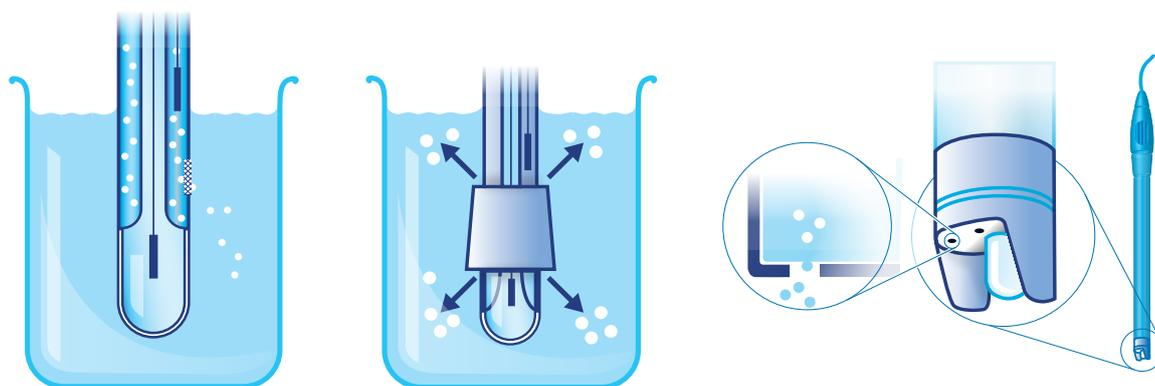

Figure 3: electrode with ceramic junction
Different junctions have been developed to provide the best contact for different kinds of samples (Fig. 3). The most common junctions in use today are ceramic junctions, which consist of porous ceramic material that allows slow electrolyte flow and are primarily used for “clean” samples; sleeve junctions, which are larger, ground-glass junctions that facilitate faster electrolyte flow and are mainly used for ion-poor or “dirty” media; and open junctions, which are completely open to the electrolyte and require a solid state electrolyte inside the reference electrode. For further information about electrode junctions, please refer to METTLER TOLEDO’s “pH Theory Guide” (7).